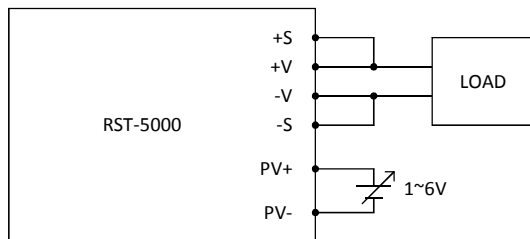

Fig 3.1
- +S and +V, as well as -S and -V, need to be connected as shown in Fig 3.1.